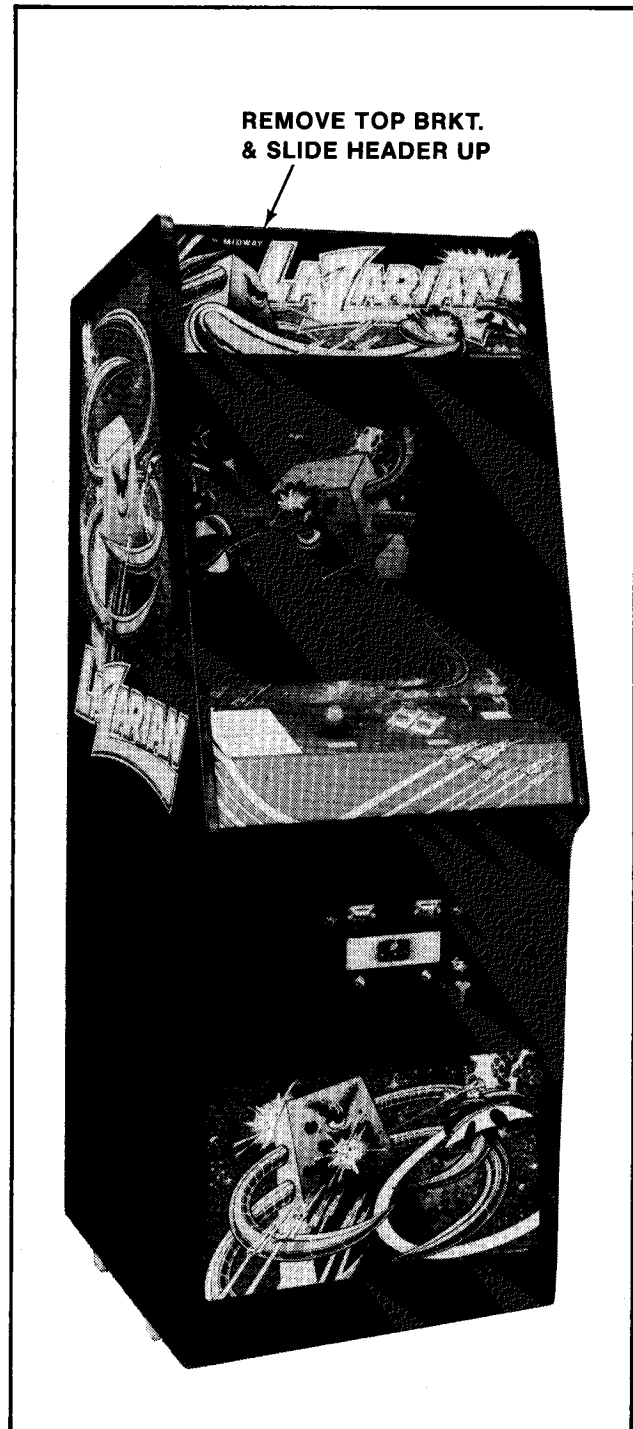
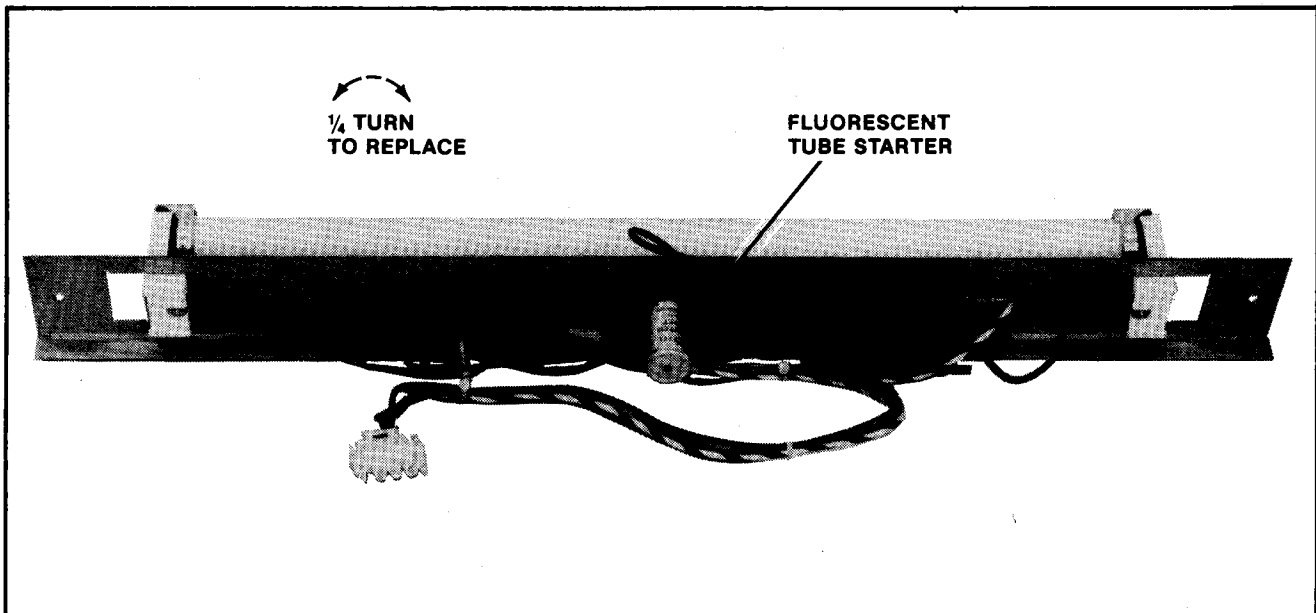

Figure 4-15 Opening the Attraction Panel — Upright
Figure 4-16 Replacing Fluorescent Tube Starter
### 1. UPRIGHT MODEL: See Figure 4-15.
- Remove the screws which secure the top bracket in place. (They are on its top side.) See Figure 4-15.
**WARNING:** If you drop a fluorescent tube and it breaks, **IT WILL IMplode!** Shattered glass can fly six (6) feet or more from the implosion. Use care when replacing any fluorescent tube.
- Replacing the fluorescent light tube starter. See Figure 4-16.